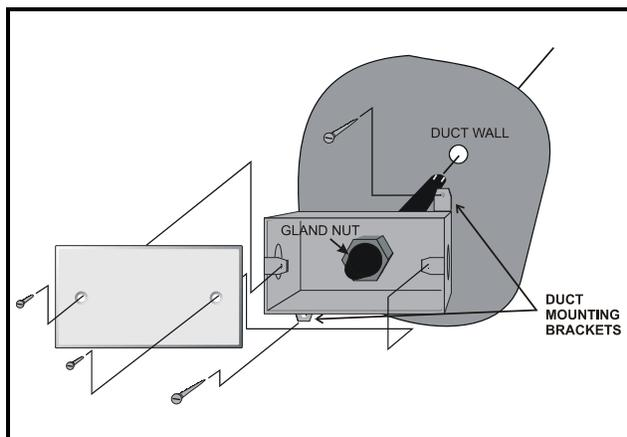

Figure 3-29 - Duct-mounted RH Sensor - Exploded View
2. Bolt the sensor enclosure against the outside of the duct wall so that the sensor element fits through the hole and into the duct. The enclosure may be mounted horizontally, as shown in *Figure 3-29* or vertically. The screws should be tight enough for the foam gasket around the bottom of the sensor to form an airtight seal between the hole in the duct wall and the outside air.